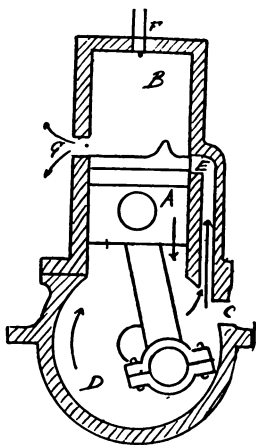

Fig. 3
scends in the cylinder and compresses the charge of gas in the base, and at the point shown in Fig. 3, the port (E) is uncovered and the compressed gas rushes up and into the cylinder, as shown by the arrows.